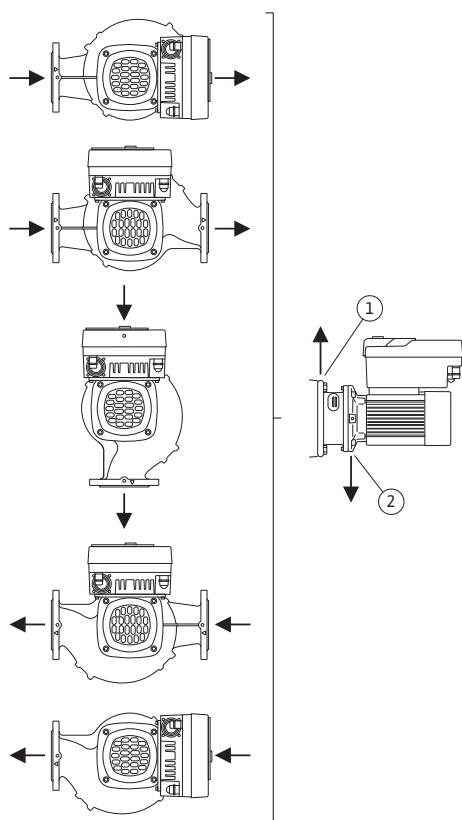

Fig. 17: Permitted installation positions with horizontal shaft
- With a horizontal motor shaft, the condensate hole must be positioned towards the bottom (Fig. 17, Item 2). If necessary, the motor must be turned.